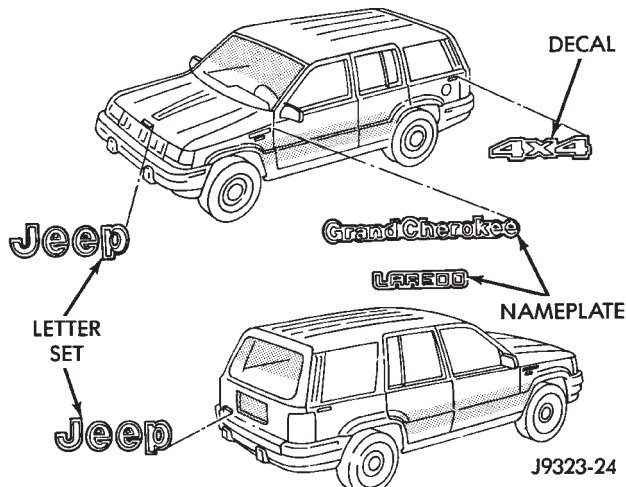

Fig. 31 Exterior Nameplates
All of the vehicle exterior nameplates (Fig. 31), are attached to the vehicle panels with adhesive.
- (1) Carefully pry nameplate (Fig. 31) from body panel.
- (2) Clean panel surface.
- (3) Position replacement nameplate on panel and push inward to seat it.